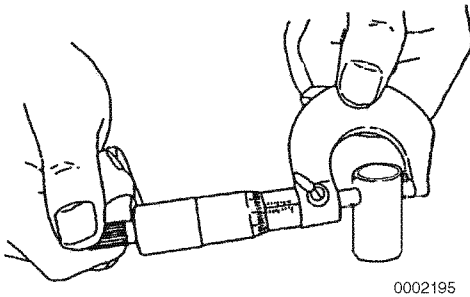

Figure 6-72
2. Measure the outside diameter of the tappet stem (**Figure 6-72, (1)**). Record the measurements. *See Tappet on page 6-11 for the service limit.*